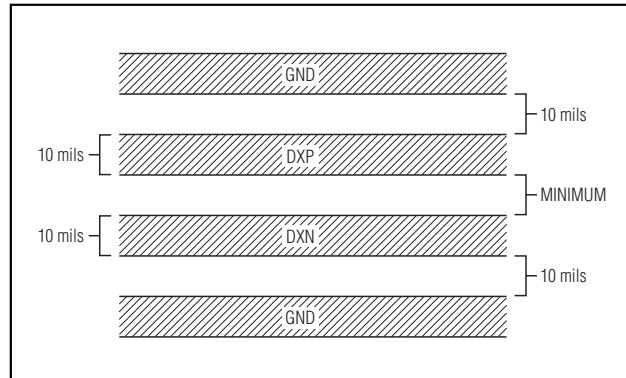

Figure 5. Recommended DXP-DXN PCB Traces
- 3) Route the DXP and DXN traces in parallel and in close proximity to each other. Each parallel pair of traces should go to a remote diode. Route these traces away from any higher voltage traces, such as +12VDC. Leakage currents from PCB contamination must be dealt with carefully since a $20\text{m}\Omega$ leakage path from DXP to ground causes about $+1^\circ\text{C}$ error. If high-voltage traces are unavoidable, connect guard traces to GND on either side of the DXP-DXN traces (Figure 5).